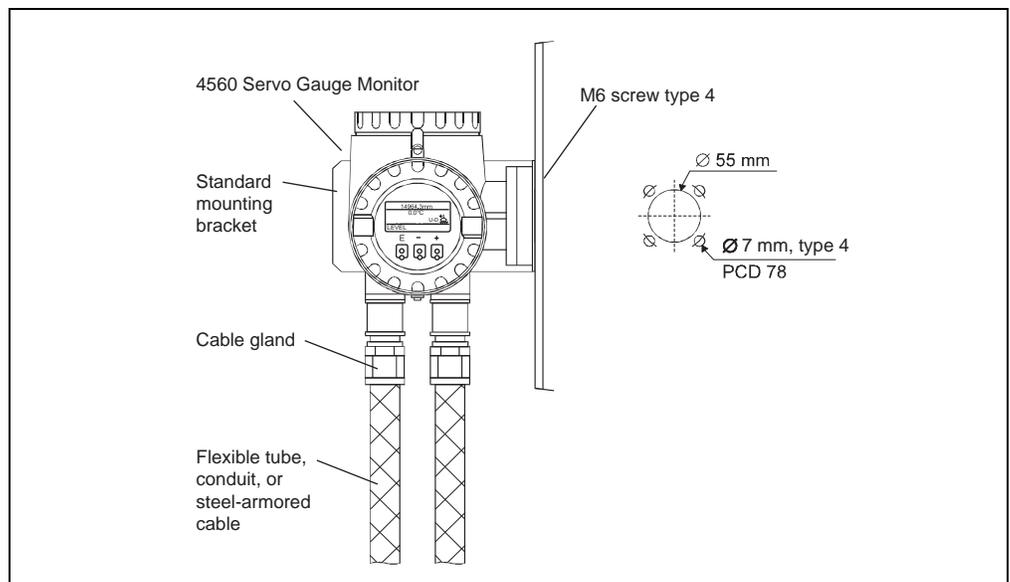

Figure 3-1: Mounting on the wall
- Mounting on the wall (Figure 3-1)